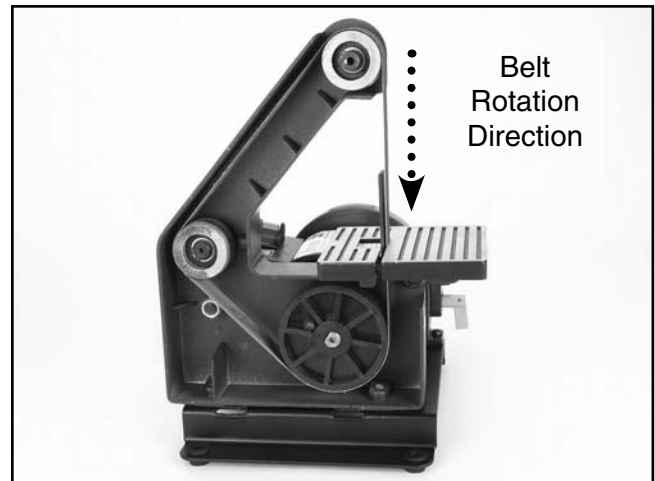

Figure 13. Sanding belt direction.
4. Observe the rotation direction of the belt and install the belt so the arrow on the belt points the same as the arrow on the sander. See **Figure 13** for knob location.